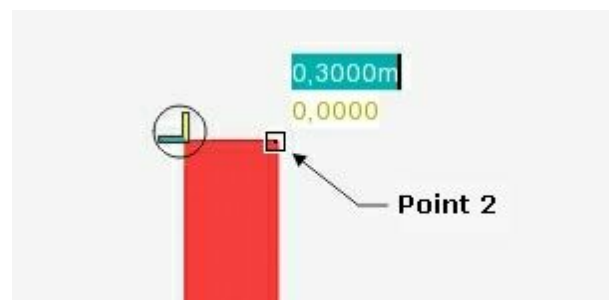

Figure 2
3. **Define the second point** of the axis by mouse click or enter the exact distance and angle. Please note that the values you enter refer to the coordinate system in point 1 (see black circle with highlighted axes in Figure 2).